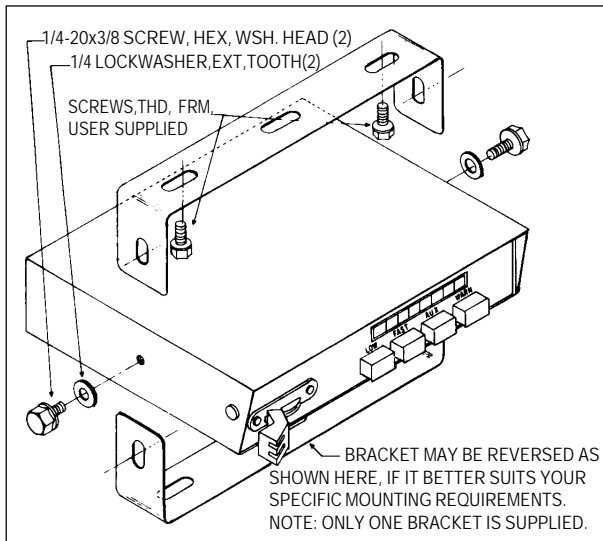

Figure 1
See figure 1. The supplied mounting bracket allows the control unit to be mounted in a variety of positions. To install the control unit, proceed as follows.
6. Secure the mounting bracket to the control unit with the 1/4-20 hex head, thread forming screws and 1/4" external tooth lockwashers (see figure 1).